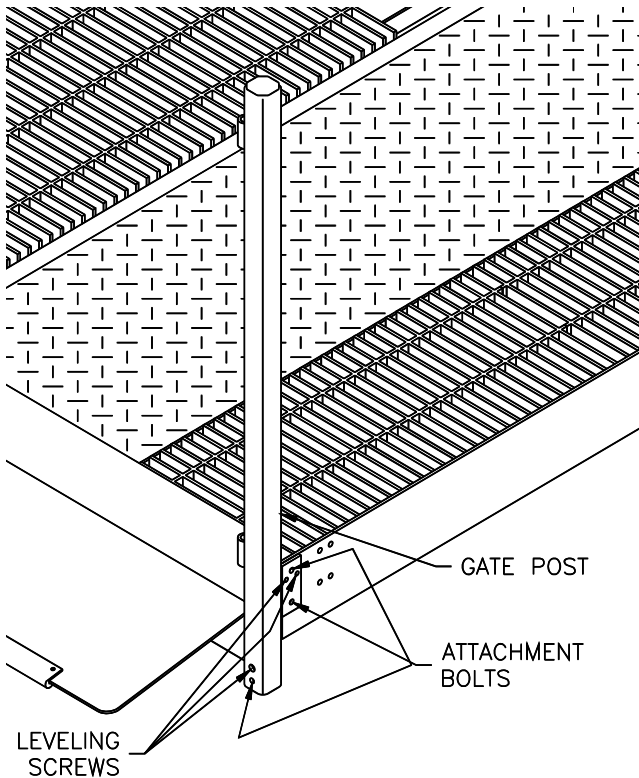

Fig 31 – Gate Post (front left corner of MDTR shown)
- 56) * Attach one gate post to the front of each runway (note that each lift uses two (2) different gate posts – one for left and one for right), **Fig 31**.